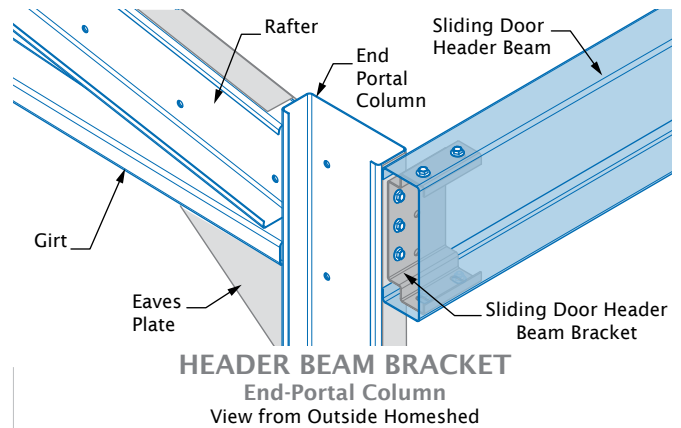

Figure 38
**Note:** The header beam brackets must not sit past the lips of the end portal columns once installed (Figure 38).
Lift the first header beam at the end portal bay of the Homeshed. Using three M12x30 flange purlin bolts, fix the header beam to the Homeshed through the pre-punched holes on the flange of the end portal column and the slots on the web of the header beam bracket (Figure 38). Confirm the header beam bracket does not sit past the lips of the end portal column (Figure 38).